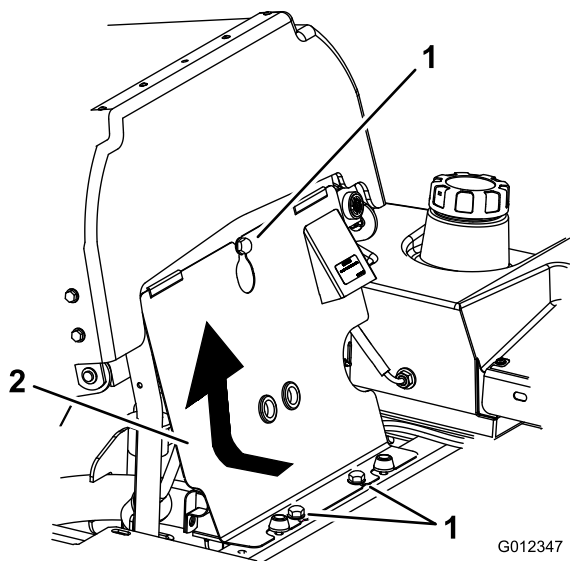

Figure 63
- Tilt the seat forward, loosen the bolts and remove the front engine panel (Figure 63).